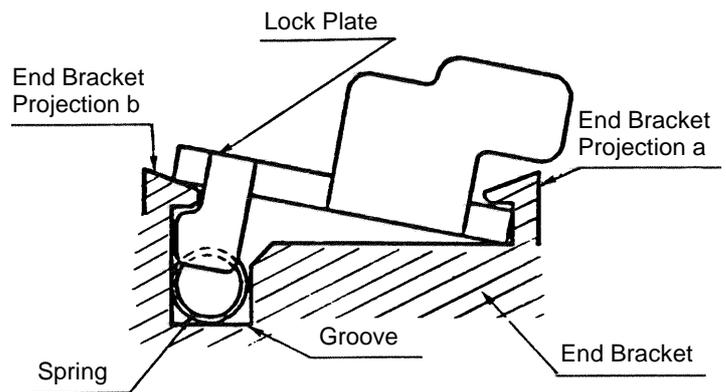

Fig. 18
(1) Reassembly of the Lock Plate (58):
- (a) Insert the Spring (57) into the groove on the End Bracket (40).
- (b) As illustrated in Fig. 18, insert the Lock Plate (58) under projection a of the End Bracket (40). Then, compress the Spring (57) while pushing the opposite end of the Lock Plate (58) under projection b of the End Bracket (40).